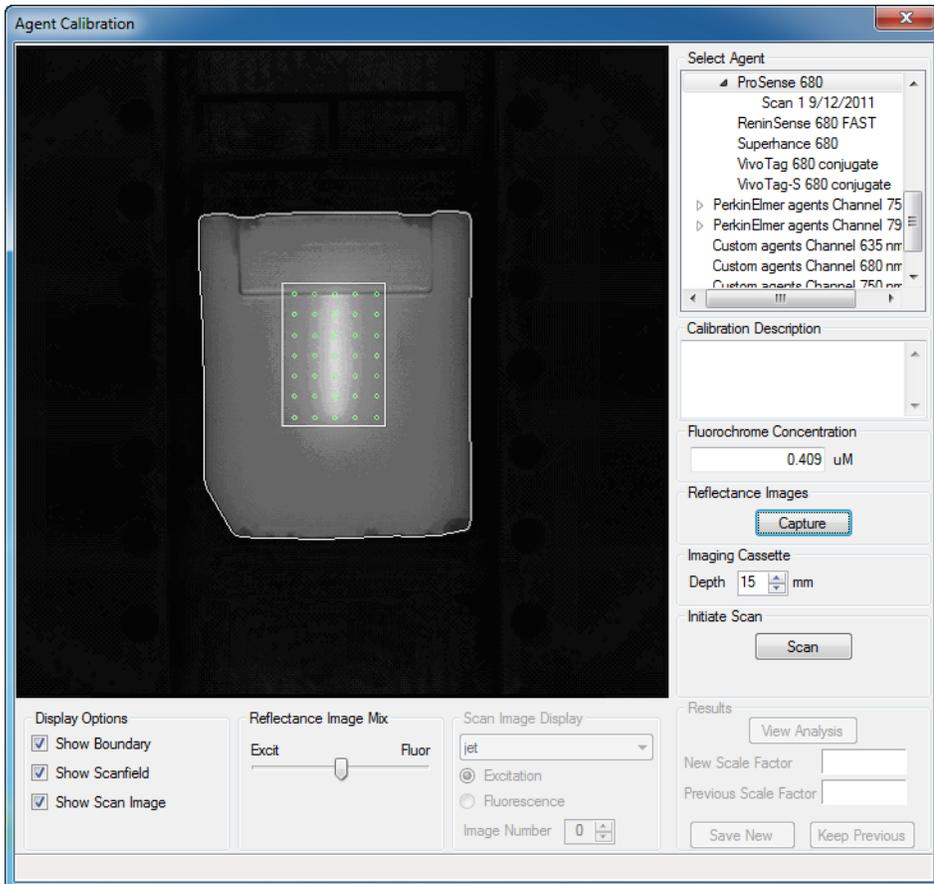

Figure 8-3. Reflectance image capture of the calibration phantom.
4. Capture a reflectance image (Figure 8-3).